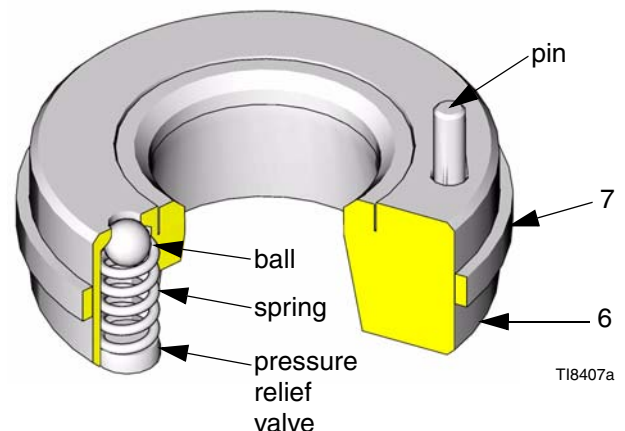

FIG. 4
- Remove the balls (5), intake seats (6 and 34), and gaskets (7).
- Inspect the pressure relief valve in the seat (6) to make sure it is not clogged. Press down on the valve's ball to see if the ball and the spring are free to move. See FIG. 4.